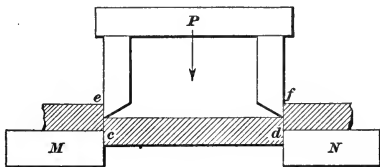

FIG. 7.
Fig. 7 shows a piece in double shear; here the central piece  $cd$  is forced out while the ends remain on their supports  $M$  and  $N$ .
**EXAMPLE.**—If the beam in double shear shown in Fig. 7 is rectangular and measures 4 in.  $\times$  2 in., what steady safe load would you allow if the beam were made of structural steel?